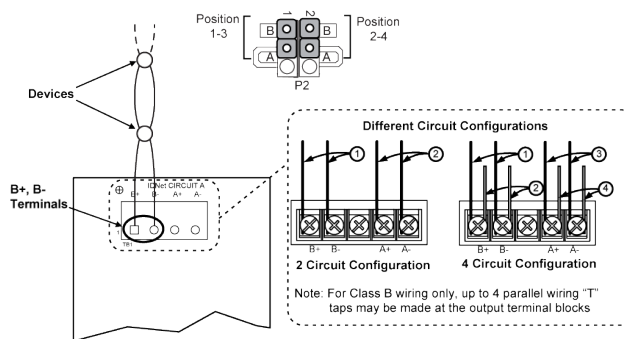

Fig 26: IDNet Class B wiring
2. Route the wiring from the IDNet circuit primary terminals (B+, B-) to the corresponding inputs on the first device. It is possible to add up to 4 circuits on the terminal block when using Class B wiring. See Figure 26: IDNet Class B wiring on page 32 for the diagram.
3. Route the wiring from the first device to the next as in/out, see Figure 26: IDNet Class B wiring on page 32. Repeat this for each device.